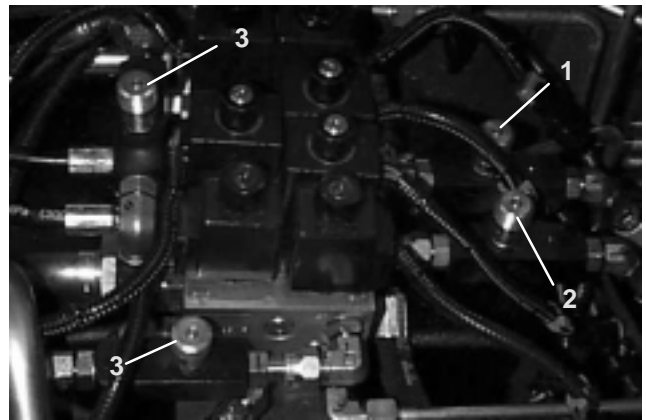

Figure 8
1. Locate valves under seat for adjusting front cutting units (Fig. 8).
1. Locate valves under seat for adjusting wing cutting units (Fig. 8).